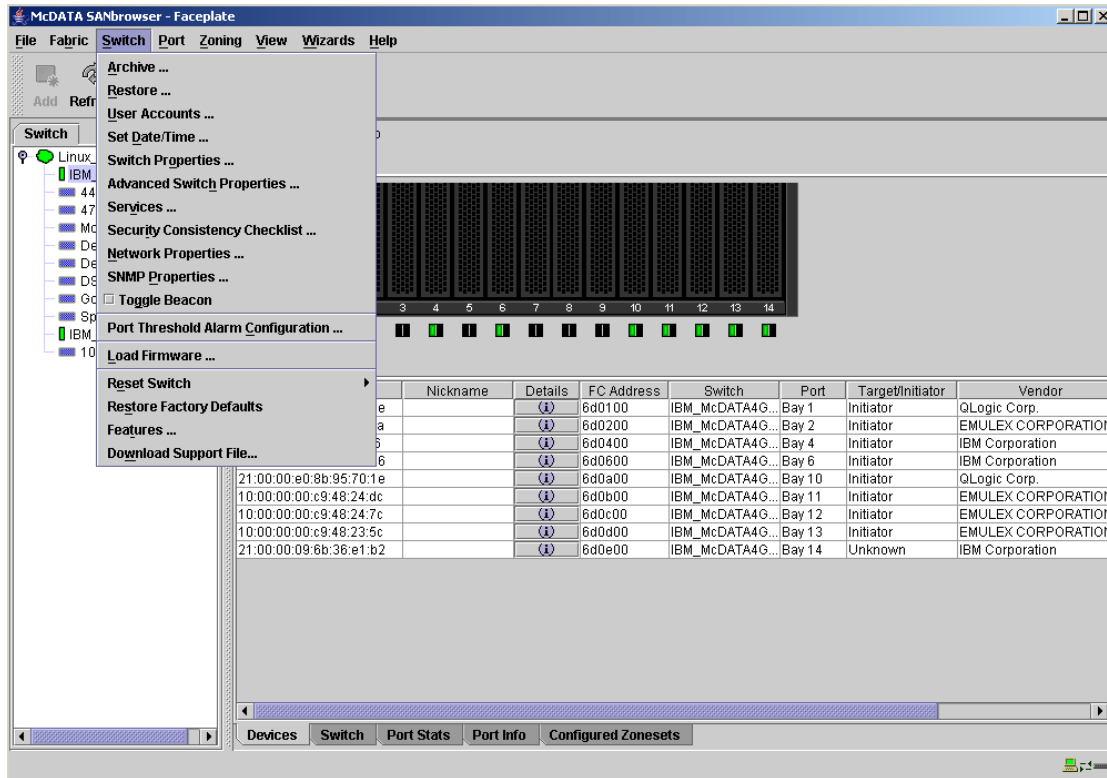

Figure 8-14 McDATA SAN Browser - Faceplate window
4. Highlight **IBM_McDATA4Gb_Top**. You will see a window similar to Figure 8-14.